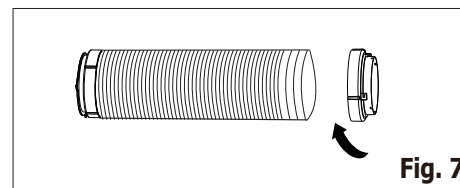

Fig. 7
4. Extend the other side of the hose and screw it to adaptor B (Fig. 7).